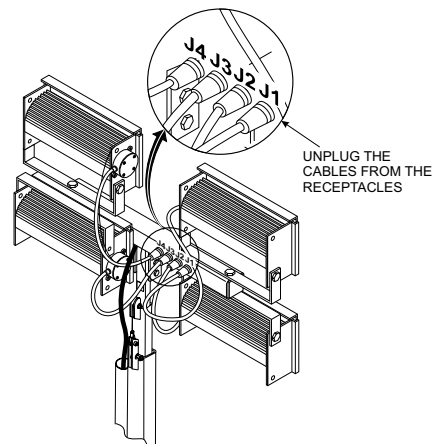

Figure 8. Remove Cables
3. Disconnect the lamp power cables from receptacles J1 thru J4 on the T-Bar assembly. See Figure 8.